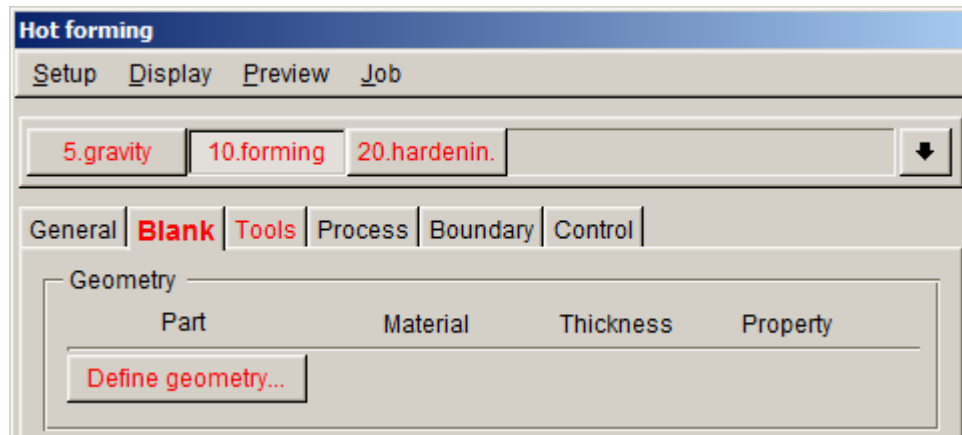

Figure 1.6 Define blank
- Then, click the **Define geometry** button from **Geometry** field in the blank definition interface. See Figure 1.6.